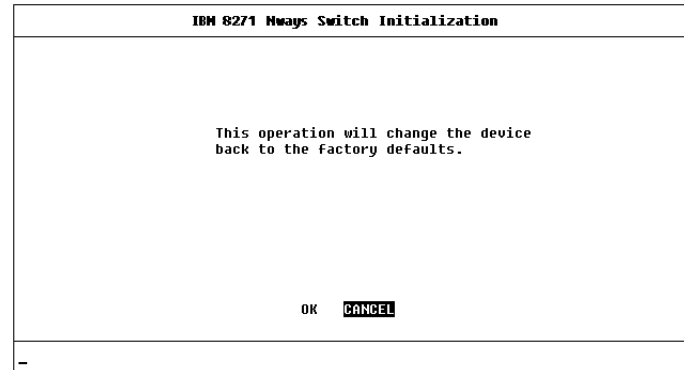

Figure 4-19 Initialize screen
- 1 From the Main Menu, select the INITIALIZE option. The Initialize screen appears as shown in Figure 4-19.